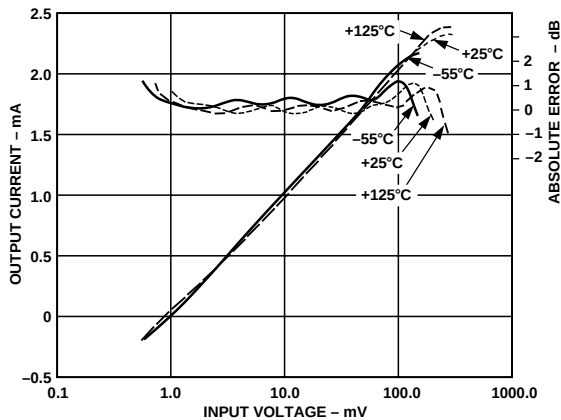
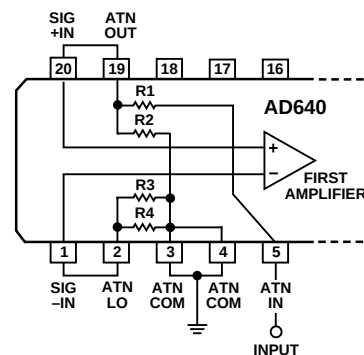
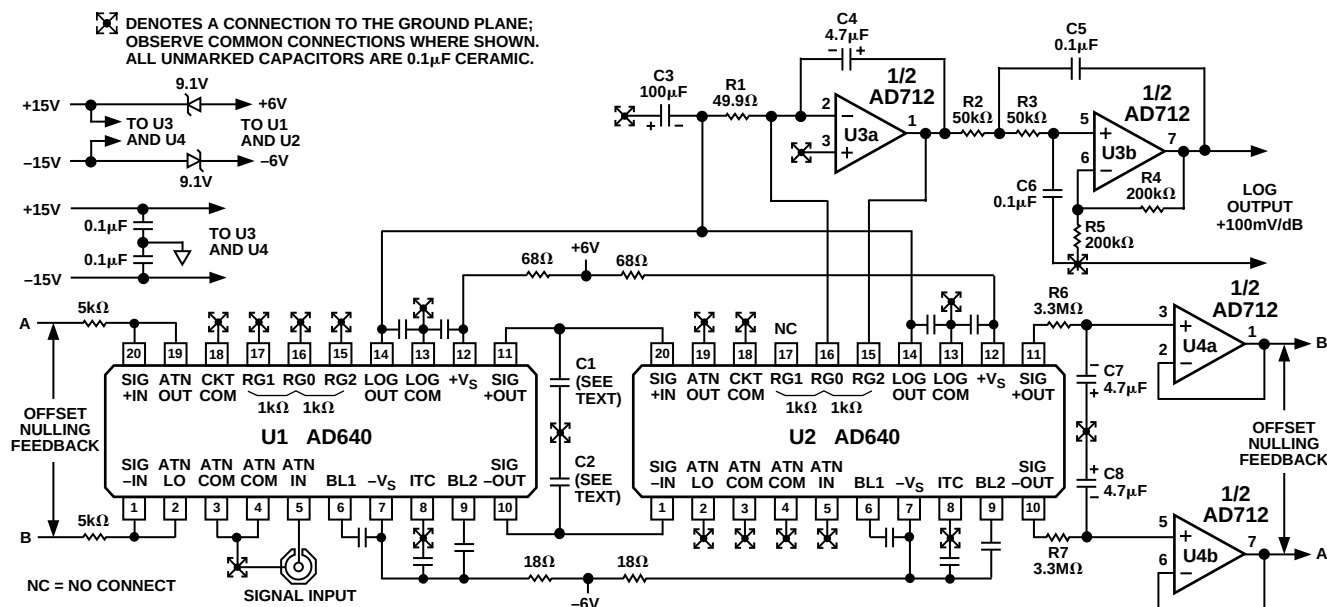

Figure 18. Logarithmic Output and Absolute Error vs. DC or Square Wave Input at $T_A = -55^\circ\text{C}$, $+25^\circ\text{C}$, Input Direct to Pins 1 and 20
Figure 26. Details of the Input Attenuator
Figure 32. Complete 95 dB Dynamic Range Converter
The logarithmic function of the AD640 is absolutely calibrated to within ± 0.3 dB (or ± 15 μA) for 2 kHz square-wave inputs of ± 1 mV to ± 100 mV, and to within ± 1 dB between ± 750 μV and ± 200 mV. Figure 18 is a typical plot of the dc transfer function, showing the outputs at temperatures of -55°C , $+25^\circ\text{C}$ and $+125^\circ\text{C}$. While the slope and intercept are seen to be little affected by temperature, there is a lateral shift in the endpoints of the “linear” region of the transfer function, which reduces the effective dynamic range. The cause of this shift is explained in Fundamentals of Logarithmic Conversion section.
In applications where the signal amplitude is sufficient, the on-chip attenuator should be used because it provides a temperature independent dynamic range (compare Figures 18 and 19). Figure 26 shows this attenuator in more detail. R1 is a thin-film resistor of nominally 270 Ω and low temperature coefficient (TC). It is trimmed to calibrate the intercept to 10 mV dc (or -24 dBm for sinusoidal inputs), that is, to an attenuation of nominally 20 dBs at 27°C. R2 has a nominal value of 30 Ω and has a high positive TC, such that the overall attenuation factor is 0.33%/°C at 27°C. This results in a transmission factor that is proportional to absolute temperature, or PTAT. (See Intercept Stabilization for further explanation.) To improve the accuracy of the attenuator, the ATN COM nodes are bonded to both Pin 3 and Pin 4. These should be connected directly to the “SIG-*NAL LOW*” of the source (for example, to the grounded side of the signal connector, as shown in Figure 32) not to an arbitrary point on the ground plane.
A low-pass filter between U1 and U2 can limit the noise bandwidth and extend the dynamic range. The simplest way to do this is by the addition of a pair of grounded capacitors at the signal outputs of U1 (shown as C1 and C2 in Figure 32). The
To increase the dynamic range it is necessary to reduce the bandwidth by the inclusion of a low-pass filter at the signal interface between U1 and U2 (Figure 32). To provide operation down to low frequencies, dc coupling is used at the interface between AD640s and the input offset is nulled by a feedback circuit.